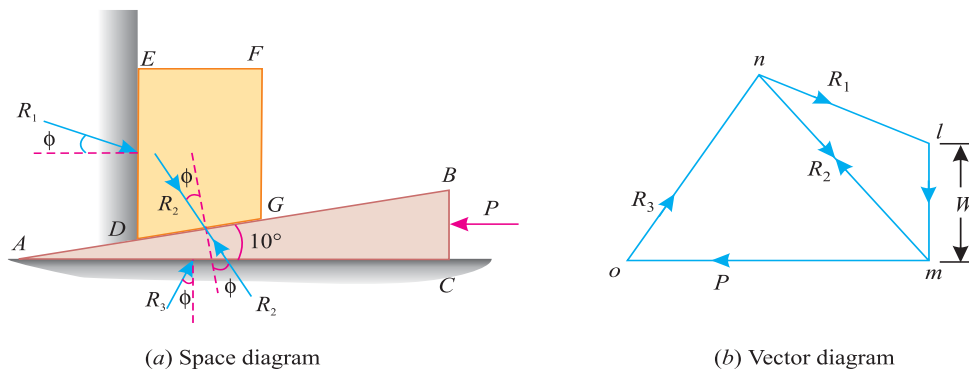

Fig. 9.12.
1. First of all, draw the space diagram for the body DEFG and the wedge ABC as shown in Fig. 9.12 (a). Now draw the reactions  $R_1$ ,  $R_2$  and  $R_3$  at angle  $\phi$  with normal to the faces DE, AB and AC respectively (such that  $\tan \phi = \mu$ ).
Now, in order to draw the vector diagram for the above mentioned three forces, take some suitable point  $l$  and draw a vertical line  $lm$  parallel to the line of action of the weight ( $W$ ) and cut off  $lm$  equal to the weight of the body to some suitable scale. Through  $l$  draw a line parallel to the reaction  $R_1$ . Similarly, through  $m$  draw a line parallel to the reaction  $R_2$ , meeting the first line at  $n$  as shown in Fig. 9.12 (b).
Now, in order to draw the vector diagram for the above mentioned three forces, through  $m$  draw a horizontal line parallel to the force ( $P$ ) acting on the wedge. Similarly, through  $n$  draw a line parallel to the reaction  $R_3$  meeting the first line at  $O$  as shown in Fig. 9.12 (b).